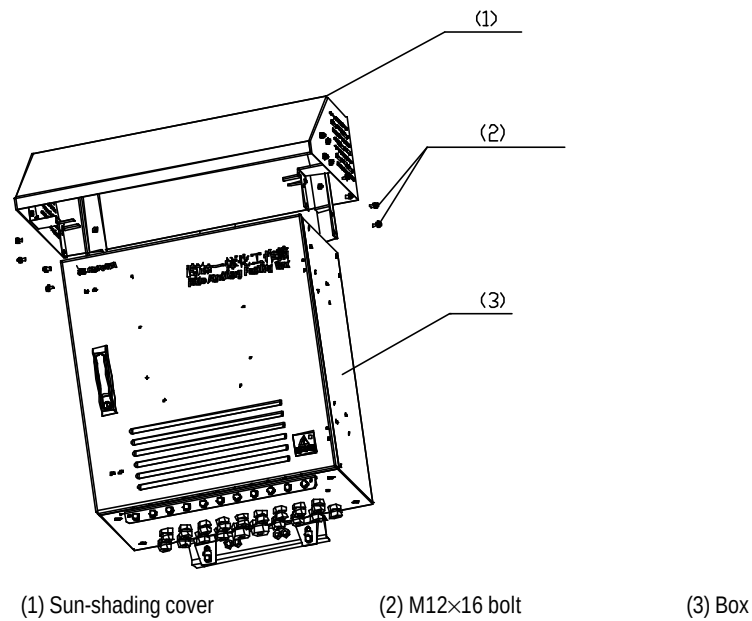

Figure A-4 Installing sun-shading cover
- 7) The installation of sun-shading cover is shown in Figure A-4. It is fixed with M12×16 bolt.